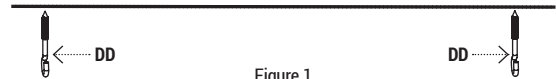

Figure 1
- Hook on the "V" hook (Part BB) across each hole on both sides of the fixture. (Figure 1)
- Hook on the hanging chains (Part AA) across each ceiling hook (Part DD not included). (Figure 1)